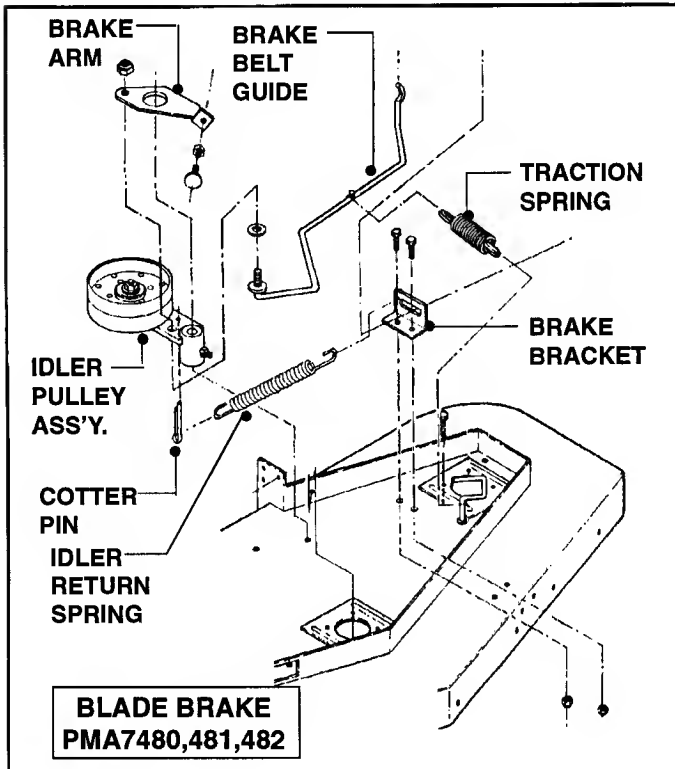

FIGURE 6.3
- B. After relocating Brake Arm as shown in Figure 6.3, start Engine and place Blade Drive in "ON" position and let it operate for a few seconds.